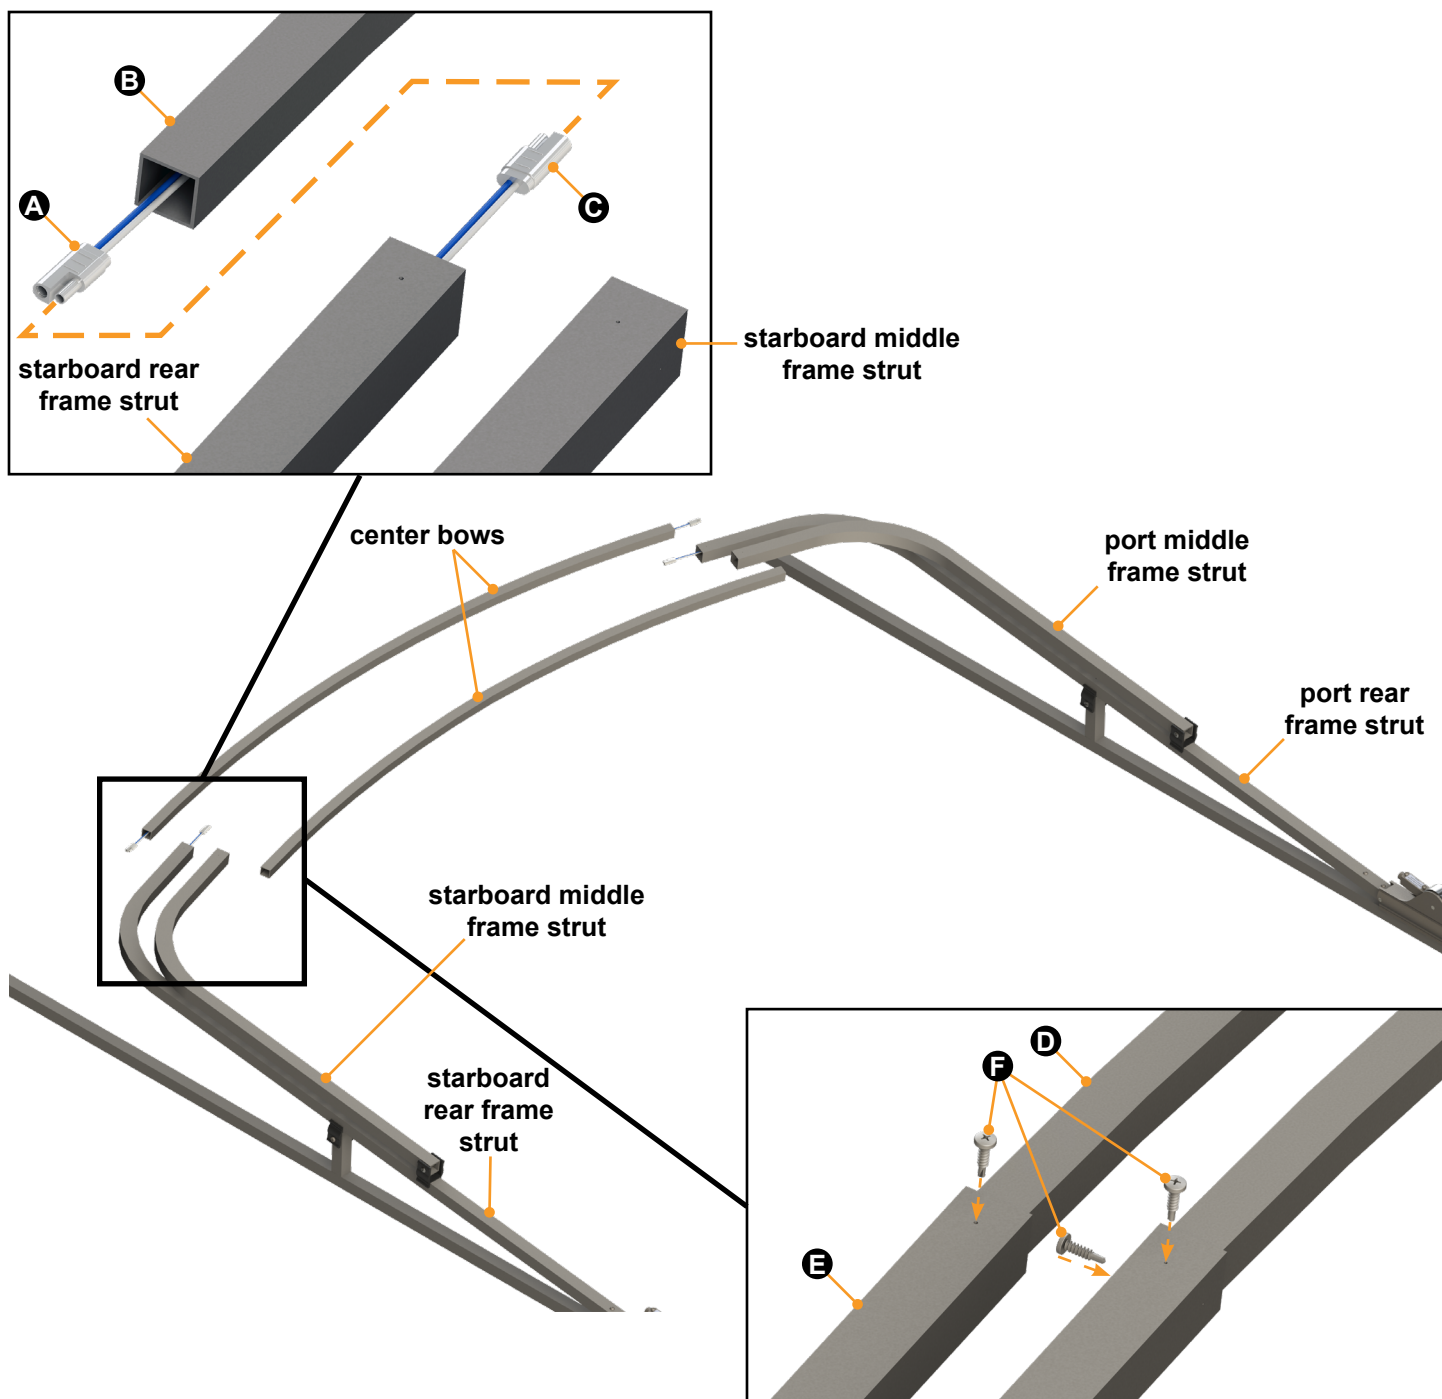

Fig.12
D. Slip a center connecting bow into the starboard and port middle frame struts (Fig.12).
I. Install one screw on each starboard and port rear strut where shown in figure 12.
II. Install two screws on each starboard and port middle strut where shown in figure 12.